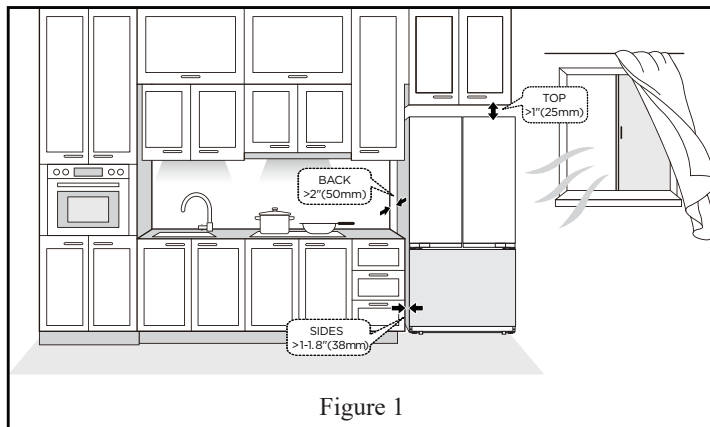

Figure 1
- Inadequate clearance from adjacent items may result in the degradation of freezing capability and increased electricity costs. When installing the appliance, maintain the clearance as shown in the figure. However, if your appliance needs to be placed against a wall on the sides, ensure that there is a clearance of more than 1-1.8" (38mm) between the sides of the unit and the wall. See Figure 1.